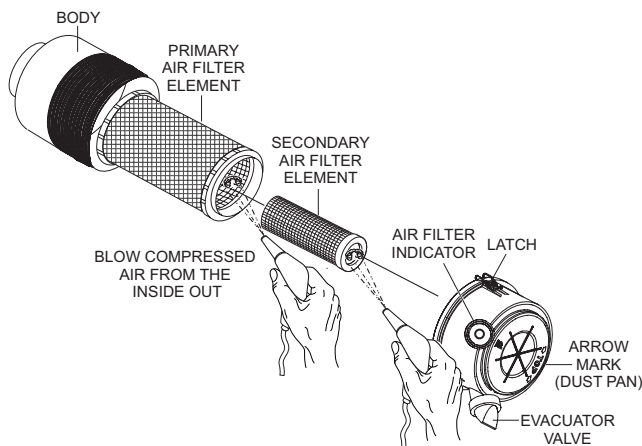

Figure 78. Engine Air Cleaner
This Volvo diesel engine is equipped with a replaceable, high-density, paper air cleaner element (Figure 78). The air cleaner is also equipped with an inner (secondary) element that is used as a backup filter should the primary element become damaged. Check the air cleaner daily or before starting the engine. Replace the air cleaner as needed.
1. Release the latches that secure the cover to the air cleaner body (Figure 78).
2. Remove the **air cleaner cover** (Figure 78) and set it aside.
3. Remove both the primary and secondary air cleaner elements (Figure 78).
5. To clean the **primary element** (paper air filter) as shown in Figure 78, tap the filter element several times on a hard surface to remove dirt, or blow compressed air, not to exceed 30 psi (207 kPa, 2.1 kgf/cm²), through the filter element from the inside out.
8. Clean the inside of the **air cleaner body** (Figure 78).